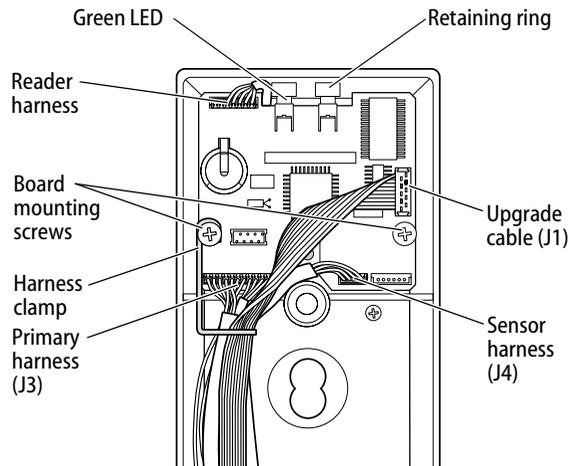

Figure 1 Disconnecting and reconnecting the wire harnesses
- 3 Disconnect the upgrade cable, sensor harness (EV, FV, and LV function mortise locks), and primary harness from the electronics board (Figure 1).
- 2 Firmly connect the reader harness to the connector on the upper-left corner of the new electronics board. The connector should snap into place (Figure 1).
- 6 Connect the wire harnesses to the electronics board (Figure 1):
- 8 Position the primary harness, sensor harness, and upgrade cable under the clamp (Figure 1).
- 5 Disconnect the primary harness from the electronics board (Figure 1).
2 Firmly connect the reader harness to the connector on the upper-left corner of the new electronics board. The connector should snap into place (Figure 1).
6 Reconnect the primary harness to the J3 connector (Figure 1).